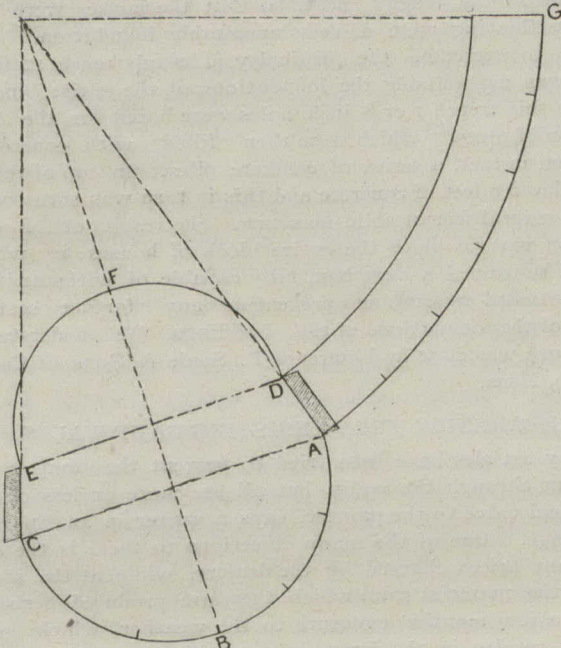

FIG. 1.—SPLYED SOFFIT
F. H. : In answer to Jas. D., I submit herewith a method of describing the veneer he asks for. Let Fig. 1 be the plan of a door or window opening in a straight partition, the head or soffit A B C, D E F, being circular, and splaying equally with the jambs A D, and C E. To find the shape of the soffit or veneer, divide A B C into any number of parts; continue A D and C E to H; or H as a centre, draw A G and D J indefinitely; from A to G set off the parts divided around A B C; connect G H;